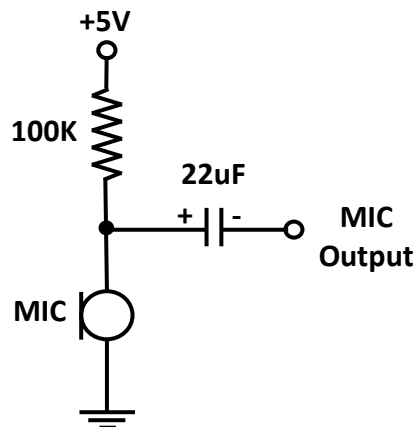

Fig. 5.1: Condenser MIC circuit
The Audio Amplifier circuit consists of Condenser MIC circuit, Op-Amp circuit and Push-Pull Power Amplifier circuit as shown in Figs. 5.1 – 5.3.
1. Connect the MIC circuit as shown in Fig. 5.1.